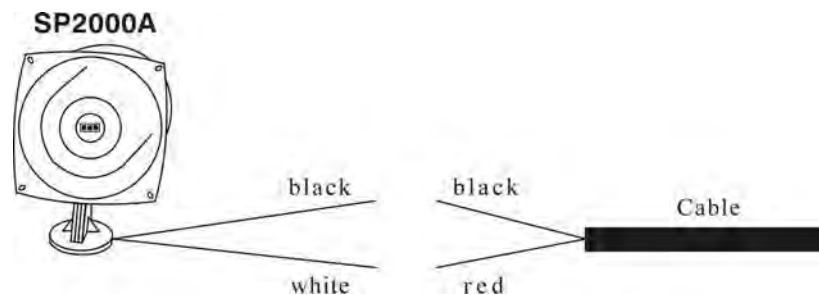

Figure 24. SP2000A cable connection
- Connect the red wire from the appropriate cable to the white SP2000A wire, and the black cable wire to the black SP2000A wire as shown in Figure 24. Do not connect the drain wire.